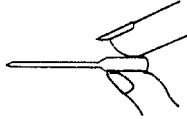

Figure 2-20. Checking Needle Straightness.
- (4) Refer to Figure 2-20. Be sure needle is straight and not bent by rolling the needle between your finger tips and looking for bends.